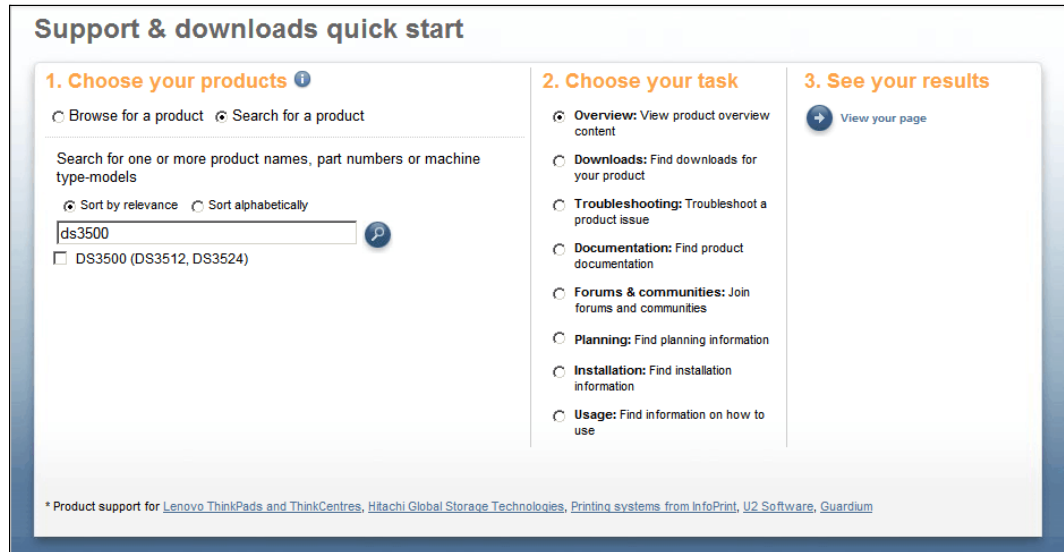

Figure A-2 Search for DS3500
2. Type DS3500 in the search box and press Enter. A window similar to Figure A-2 on page 721 will appear.